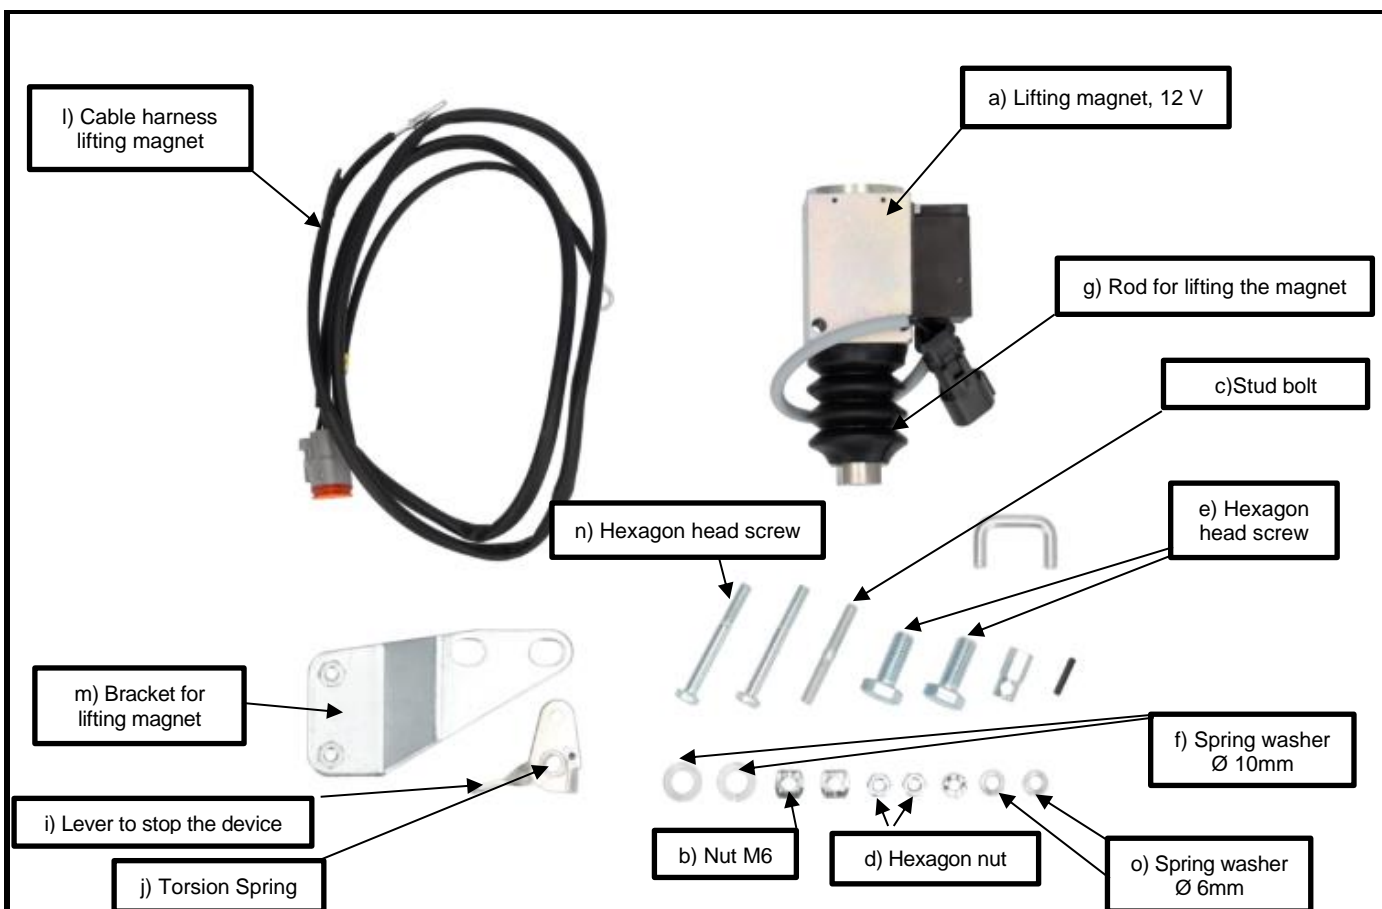

Figure 1: Lifting magnet 12V, 2G40, engine switch off kit
This document specifies the requirements for the lifting magnet 12V, 2G40, engine switch off kit to be supplied and fitted which should include but may not be limited to the following components. All components are depicted within Figure 1:
- h) 2 off Duo-Clips (Not shown in figure 1)
- k) 1 off Clamping pin, 3 x 18 mm (Not shown in figure 1)